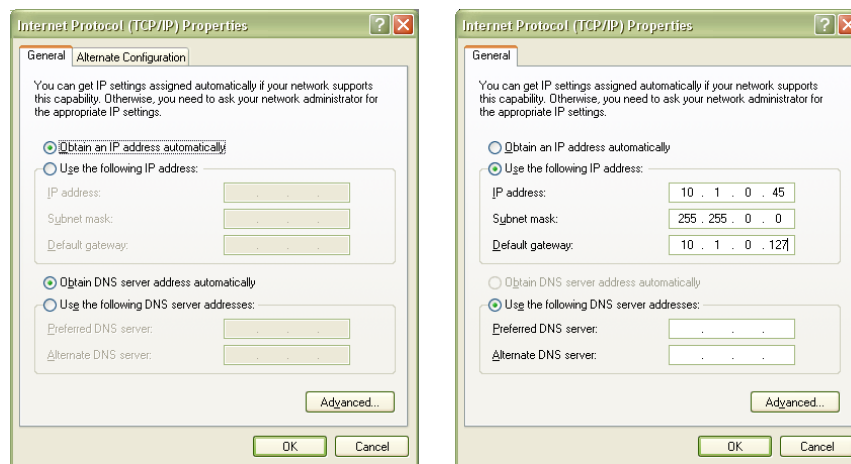

FIGURE 2-16: DYNAMIC (LEFT) AND STATIC (RIGHT) IP ADDRESS CONFIGURATIONS
- 5) Determine if the PC is set to use auto or static IP. Figure 2-16 shows examples of both auto and static IP address configurations.